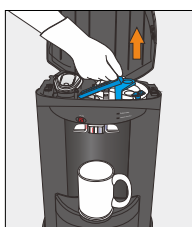

Figure 32
6. Keep glass or other container below the water outlets (to catch remaining drips), and unlatch the locking clip located near the front of the cooler to release the water tubing (Figure 32)